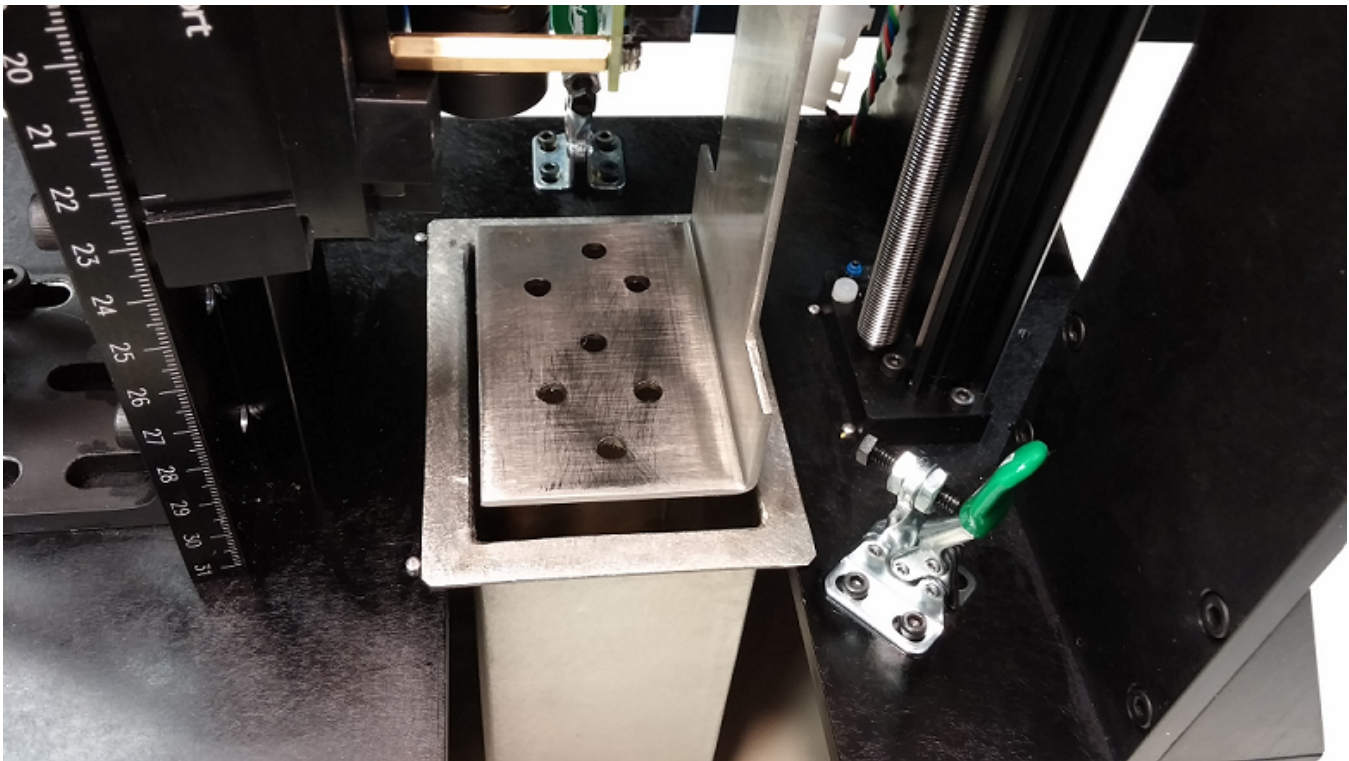

Figure 3-8. Resin Vat Placement
2. Place the resin vat in the printer base and place it securely against the alignment tabs, as shown in Figure 3-8.